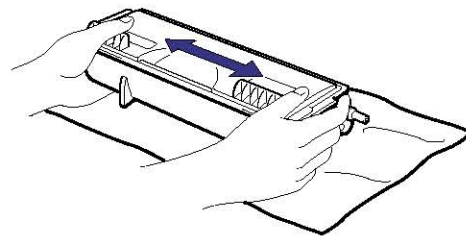

Fig. 5-5
- (3) Press the lock lever down, and then pull the toner cartridge out of the drum unit assembly.
- (4) Unpack the new toner cartridge. Keeping the cartridge horizontal, gently rock it from side to side five or six times. (Fig.5-5)